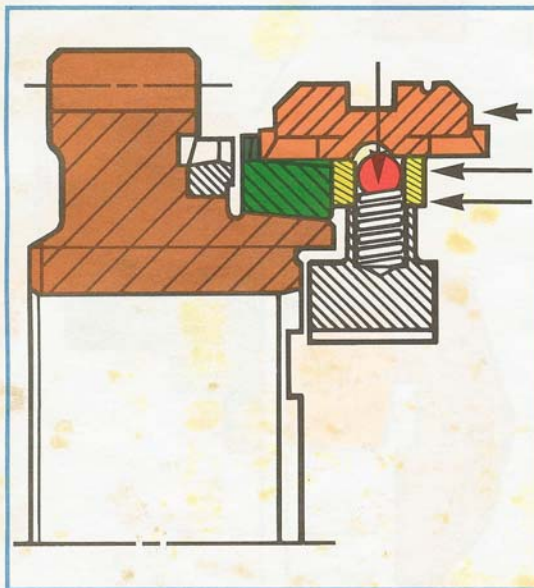

Figure 1-55, Adding Key Pressure on the Blocking Ring.
- The synchronizer sleeve is pushed further, causing the ball to come out of its pocket in the sleeve. This compresses the spring, and the key increases its pressure on the blocking ring (Figure 1-55). (The keys have left the "neutral detent" position.)